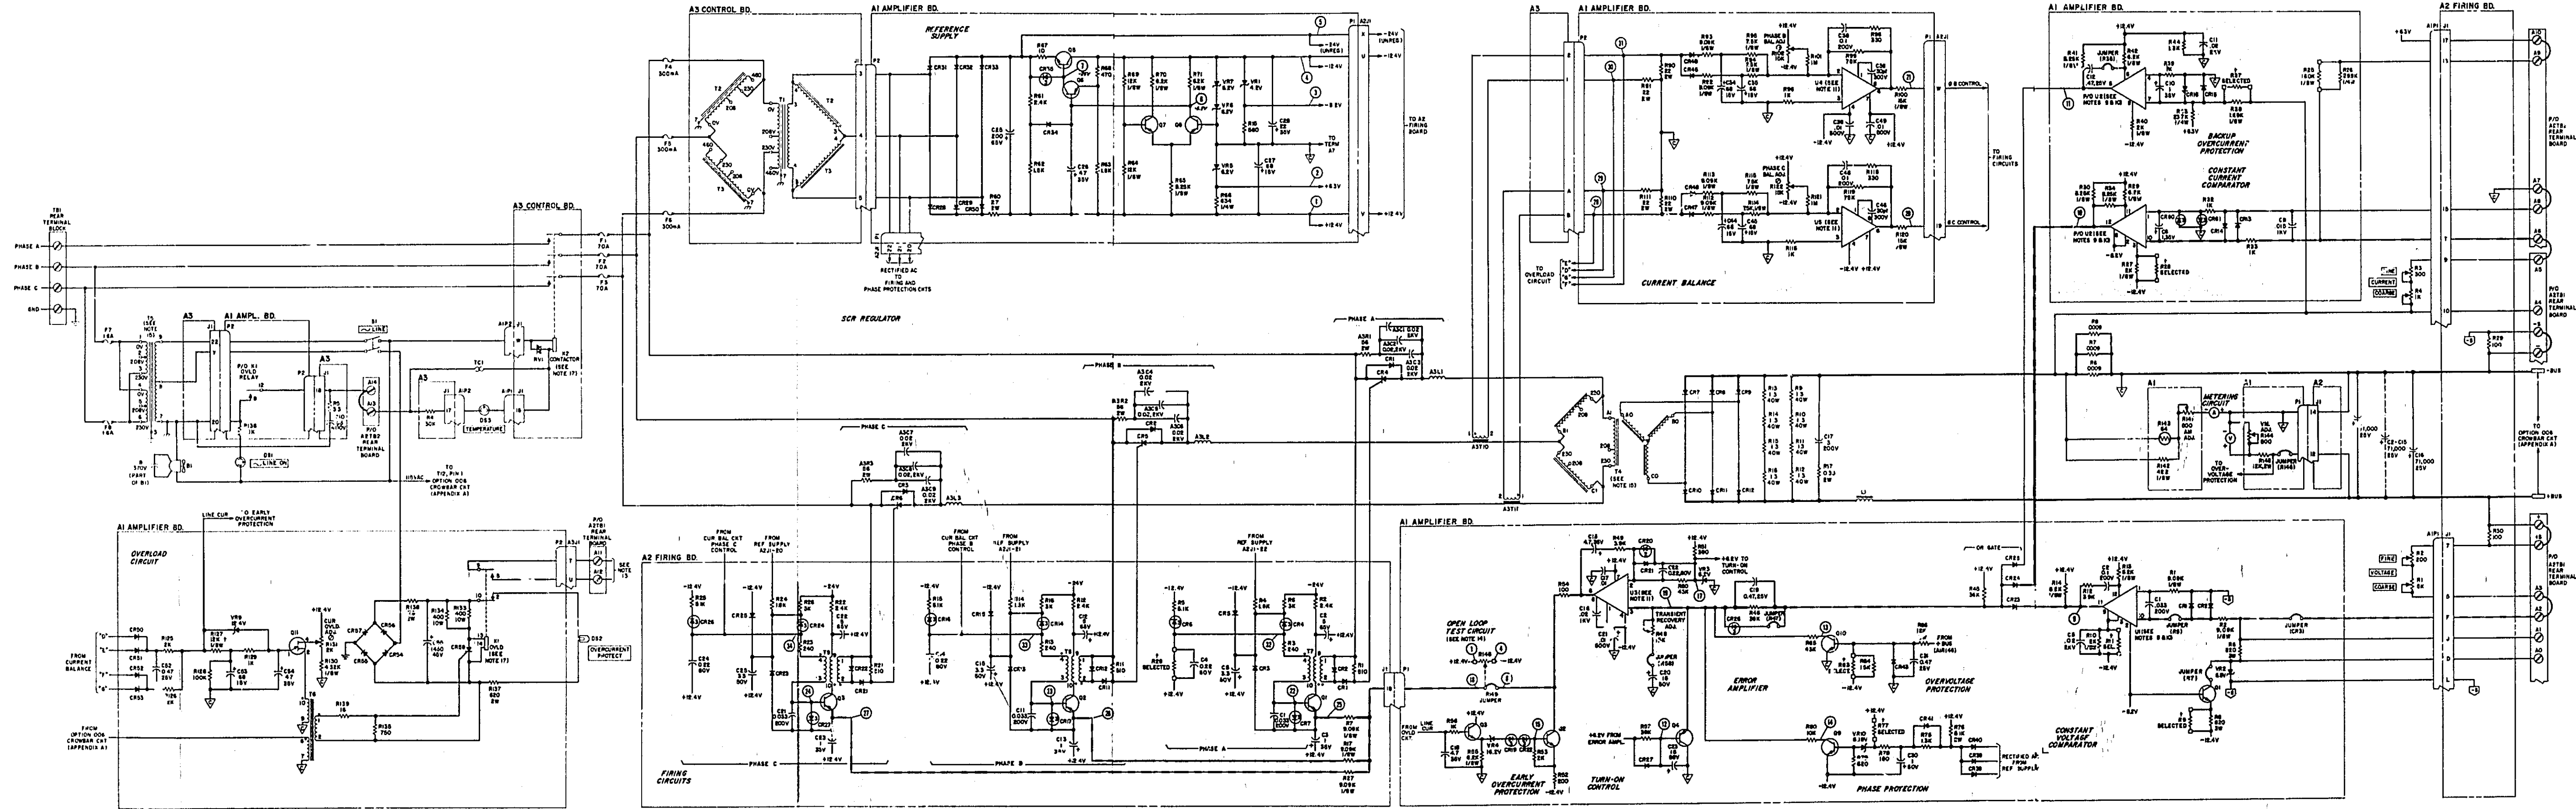

Figure 7-7. Model 6466C, Schematic Diagram
c. Schematic diagram (Figure 7-7), illustrating the circuitry for the entire power supply. Voltages are given adjacent to test points, which are identified by encircled numbers on the schematic.
On schematic, Figure 7-7, delete sampling resistor R8.